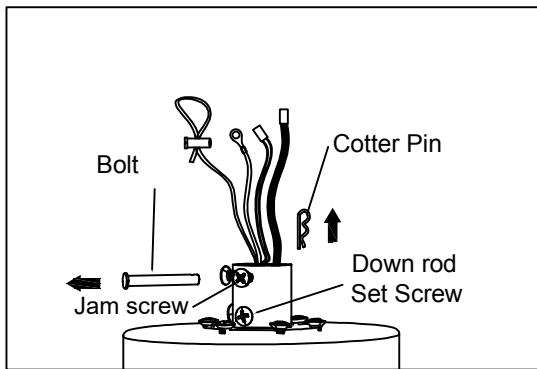

Figure 1.1
- Take out the motor assembly and pull out the bolt and cotter pin. Loosen the two set screws in the lower rod bracket of the motor assembly.(Figure 1.1)